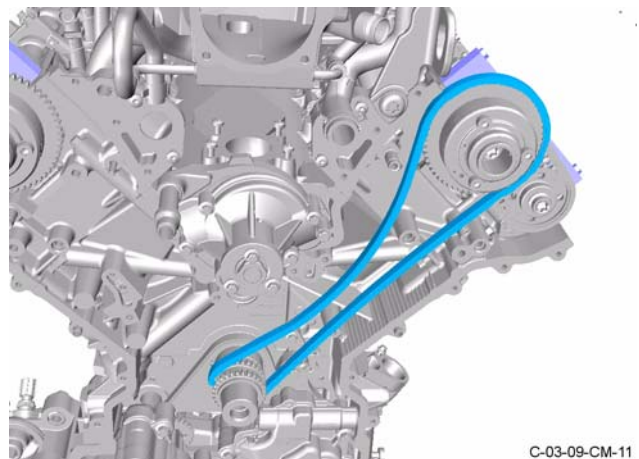

Figure 12
2. Install the timing chain (refer to Figure 12).